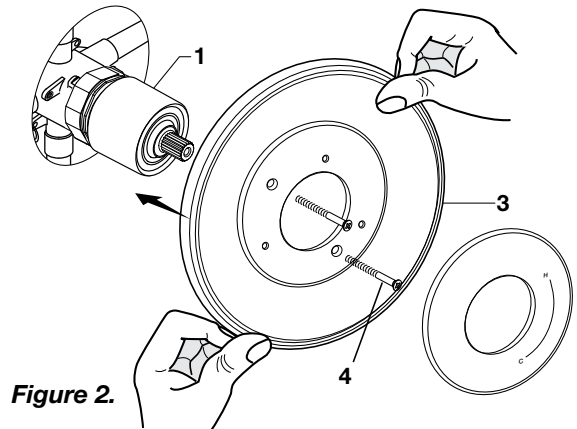

Figure 2.
☒ **Figure 2.** Push ESCUTCHEON (3) onto CAP (1) and attach to valve body with LONG SCREWS (4).